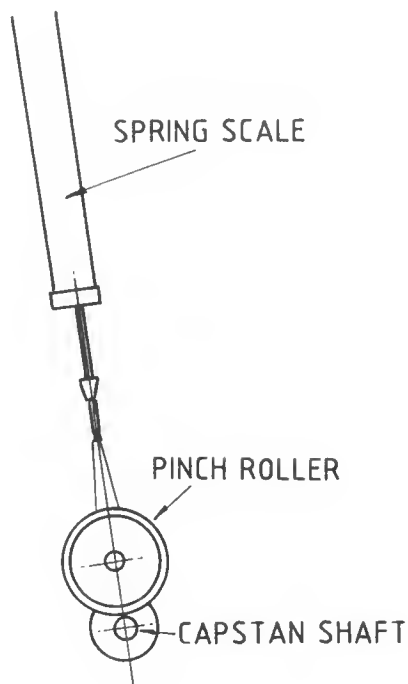

Fig. 6-4 Pinch Roller Pressure Measurement
- (1) Use adhesive tape to hold the takeup-tension-arm safety switch in an upright position so that the safety switch is not activated.
- (2) Tie string together to form a continuous loop. Place one end of the loop around the capstan pinch roller shaft.
- (3) Press the PLAY push-button. The pinch roller will move to make contact with the capstan and both will rotate.
- (4) Hook a 0 to 10 pound spring scale to the other end of the cord and pull the cord taut, straight to the center of the capstan as is shown in Fig. 6-4. Do not let the cord come into contact with the rotating pinch roller.